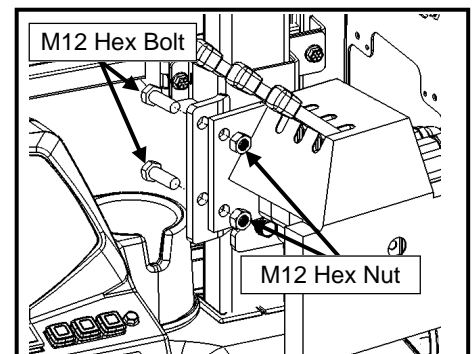

Figure 2.4: Hydraulic Manifold Relocation
- 2.4 Bolt hydraulic manifold to hydraulic bracket with (2) M12 hex bolts and nuts (see Figure 2.4)